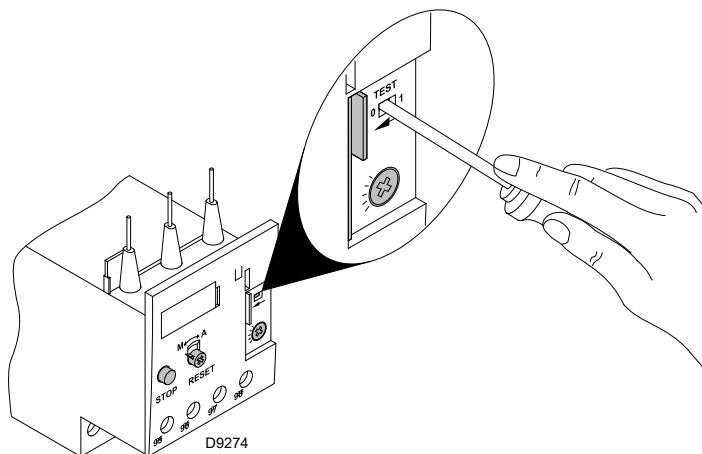

Fig. 32
- To test the thermal relay, insert a screwdriver in the window **"TEST"** (Fig. 32) and move it in the sense of the arrow (towards right).